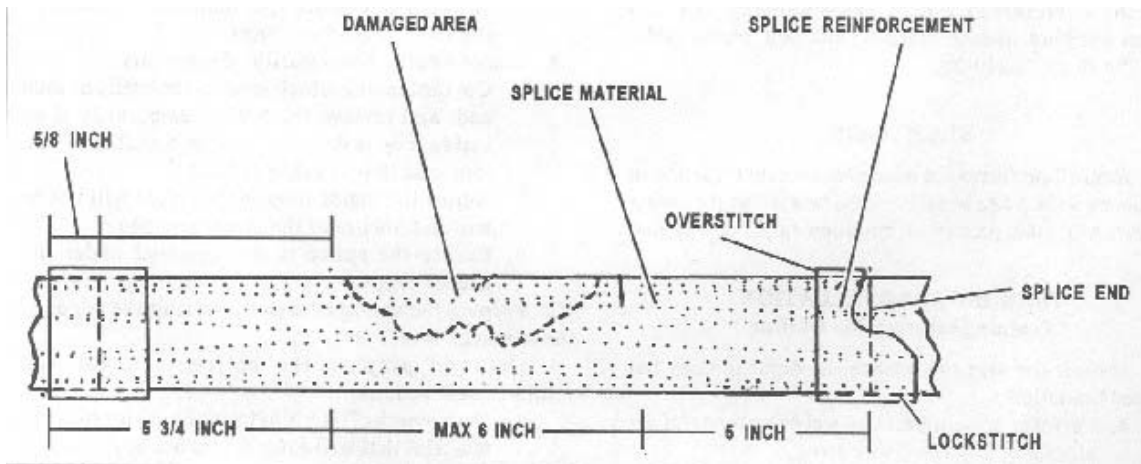

Figure 3-53
5. Position and center the splice material over the damaged area. Position the reinforcement material around the sling loop webbing, and splice material at each end of the splice area. (See Figure 3-53)
6. Sew a four-point, WW stitch formation the full length of the splice material webbing and splice reinforcement webbing. (See Figure 3-53)